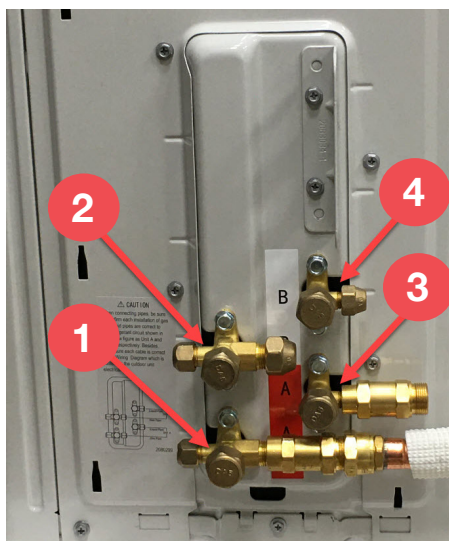

Figure 7.2
6. Remove the caps on the bottom valves using an adjustable wrench. Using a 5 mm Allen key, place key inside of the bottom and turn counter-clockwise slowly until you reach a stop. Open valves in order as per figure 7.2. Then screw the cap back on the top of the valve and tighten to ensure a proper seal. Repeat the same procedure for the rest of the zones.